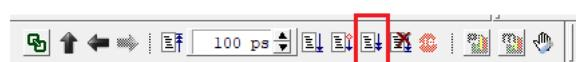

Figure 13. Run Simulation
32. To run the simulation, **click the Run-All button**, as shown in Figure 13. The simulation will stop at the first stop command so you can review the results for the first test case. To continue, **click Run-All again**.